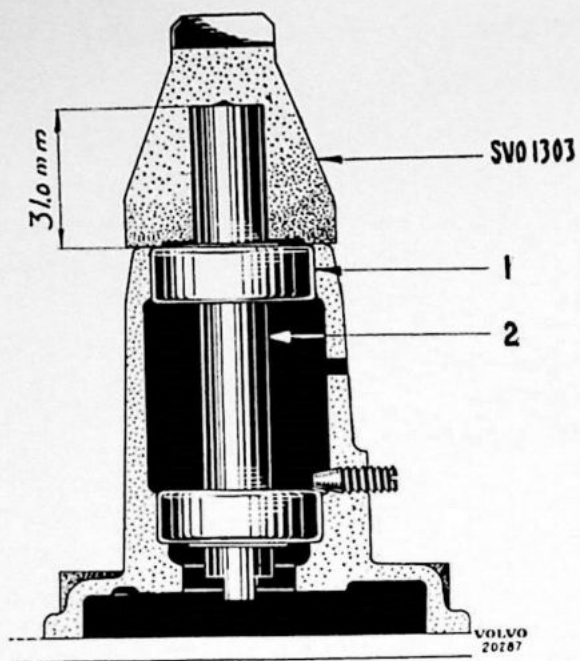

Fig. 102.
2. Place shaft in pump housing and press in shaft with tool SVO 1303, until tool bears against housing. Fig. 102.